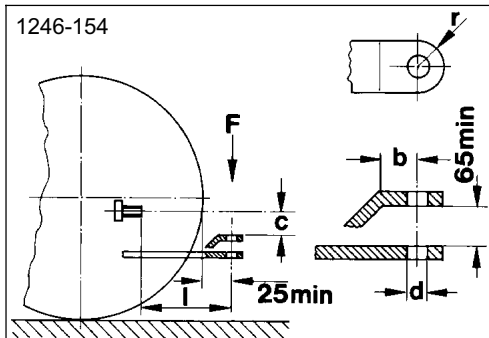

Figure 14
**Attention!** Other tow hitches than showed in Figure 14 or Table 2 are not permitted! Danger of breaking!